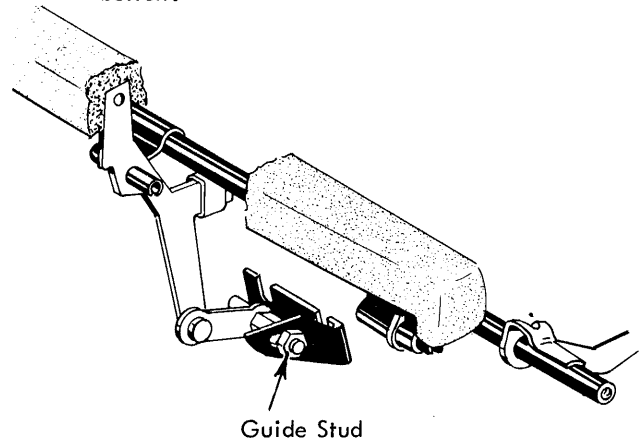

FIGURE 187. Guide Stud (Late Style)
- b. Late Style - Adjust the guide stud (Fig. 187) forward or back in its elongated mounting hole so that a clearance of 1/16" to 1/32" exists between the bottom of the skirt on the spacebar and the bottom of the skirt on a depressed fourth row key-button.